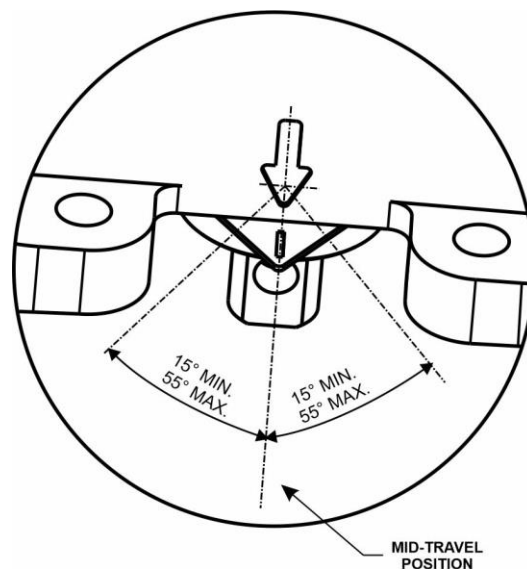

Figure 1.7 – Admissible range – rotary mounting bracket
12. Stroke the actuator to each end of its travel. Travel indicator must travel within the admissible range, as shown in figure 1.7.